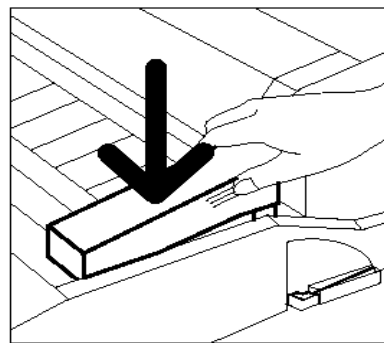

Figure 40: Installing the Fuser Oil Cartridge
- 10** Align the cartridge in the proper position on the Paper Path Module. Press it carefully into place, as illustrated in Figure 40.